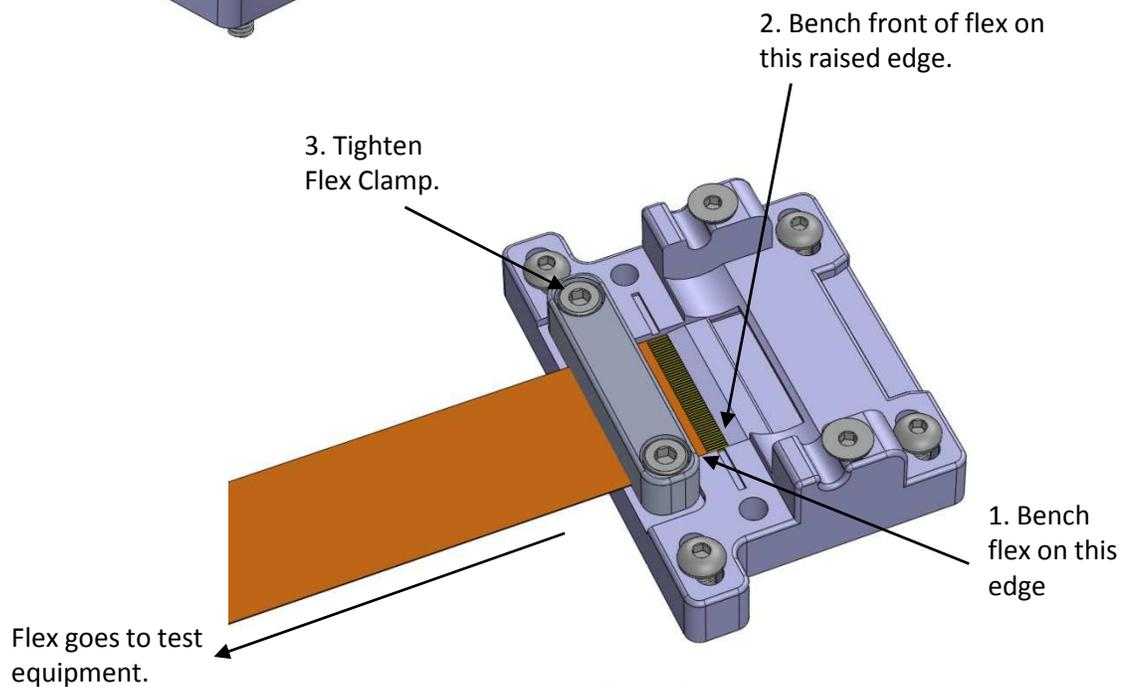

Figure 5
With most of the hardware removed and the Flex Clamp loosened (it does not need to be fully removed) so the flex can move freely below it, place the new flex as shown in figure 5. Bench the flex against the edge shown in item (1) below and slide it up to the raised edge shown in item (2). With the flex properly benched, tighten the Flex Clamp (figure 5).